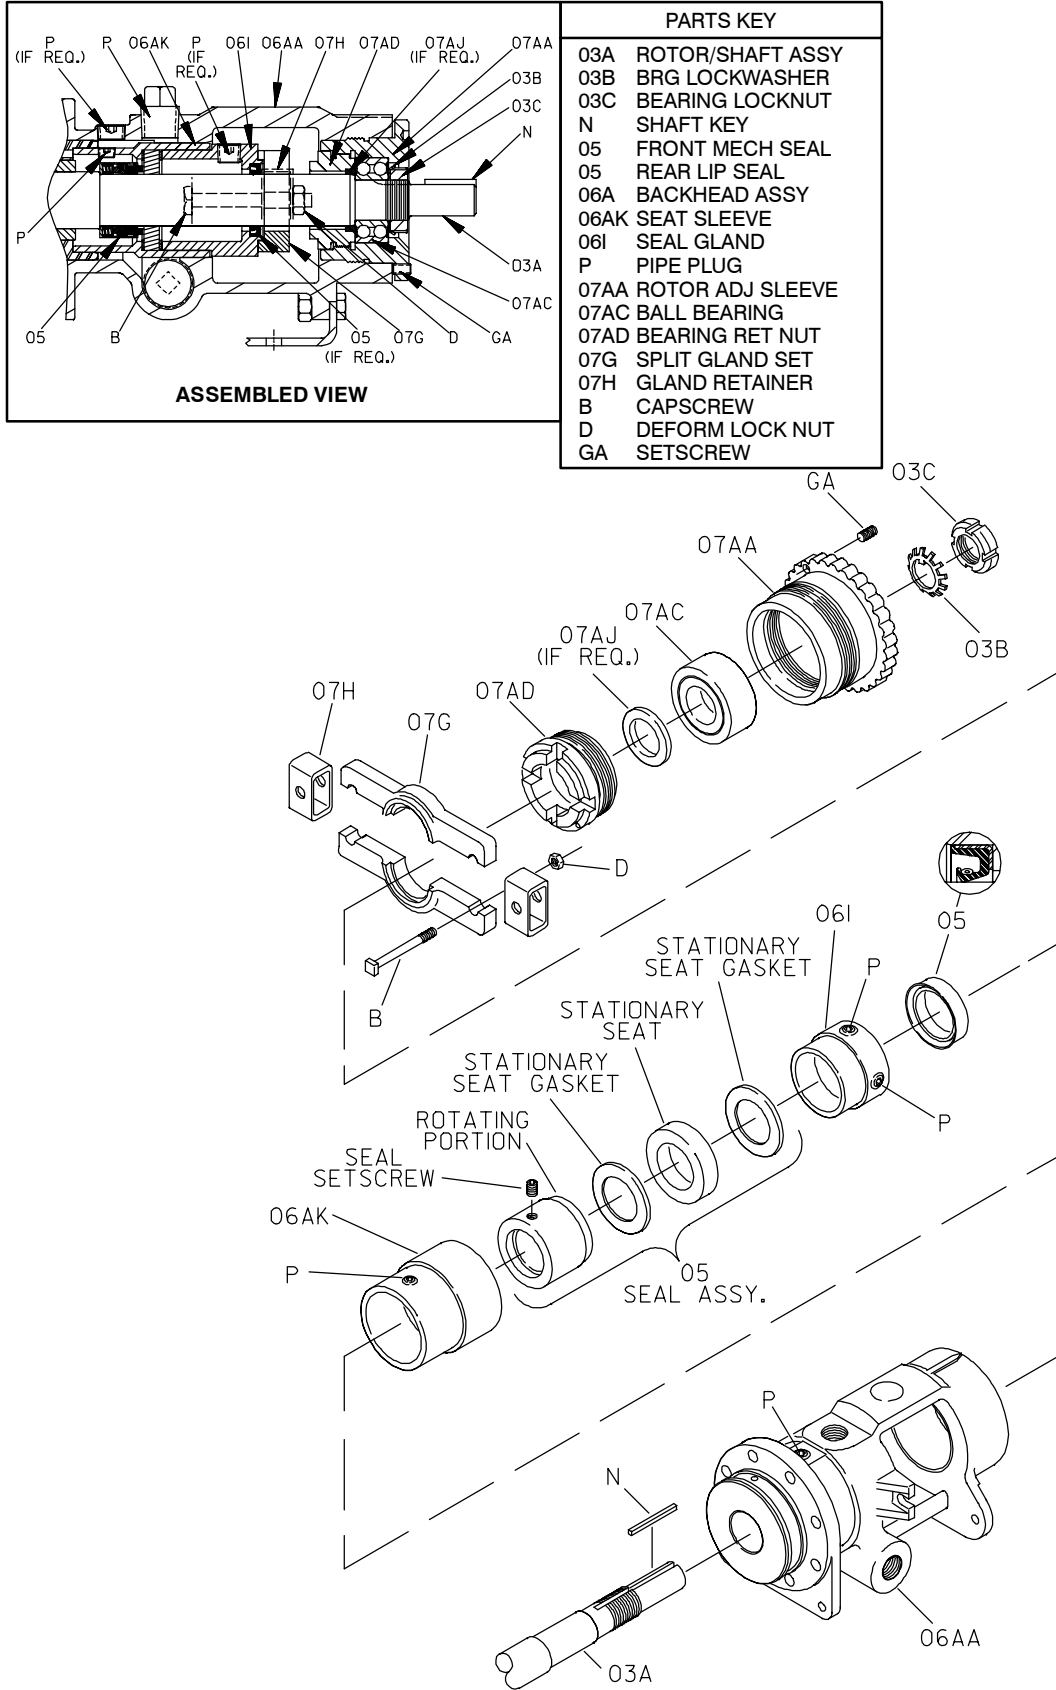

Figure F-9. Jacketed Modular Seal (Option 61A, 61B, 61C, 61D And 61H)
Position the seal gland (06I) on a flat surface with the drive end up. Press the rear lip seal (05) into the seal gland with the lip positioned as shown in Figure F-9.